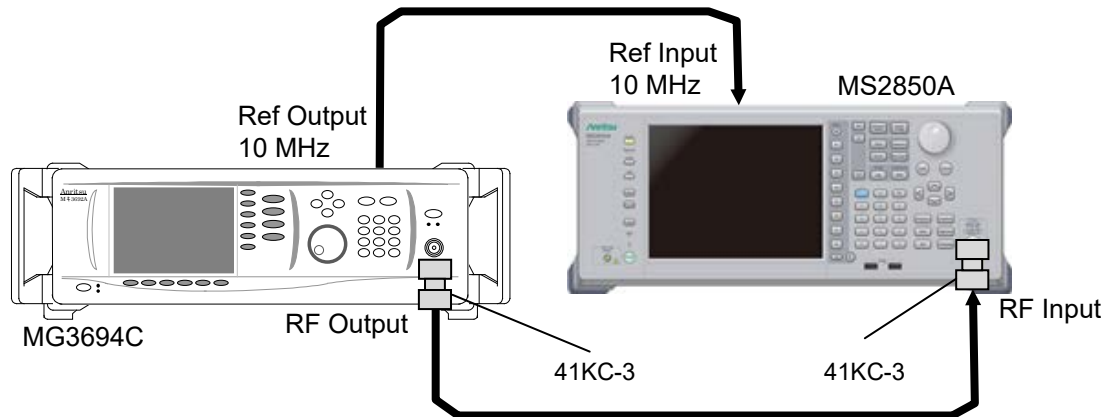

Figure 6.2.12-1 Image responses
4. Connect the equipment in reference to Figure 6.2.12-1.